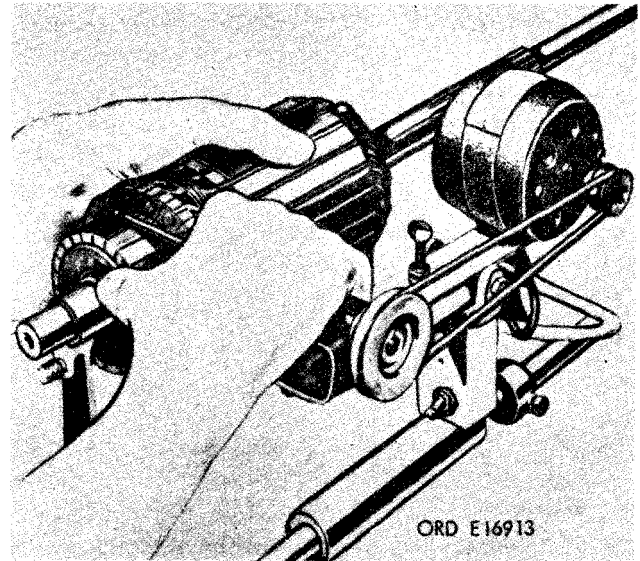
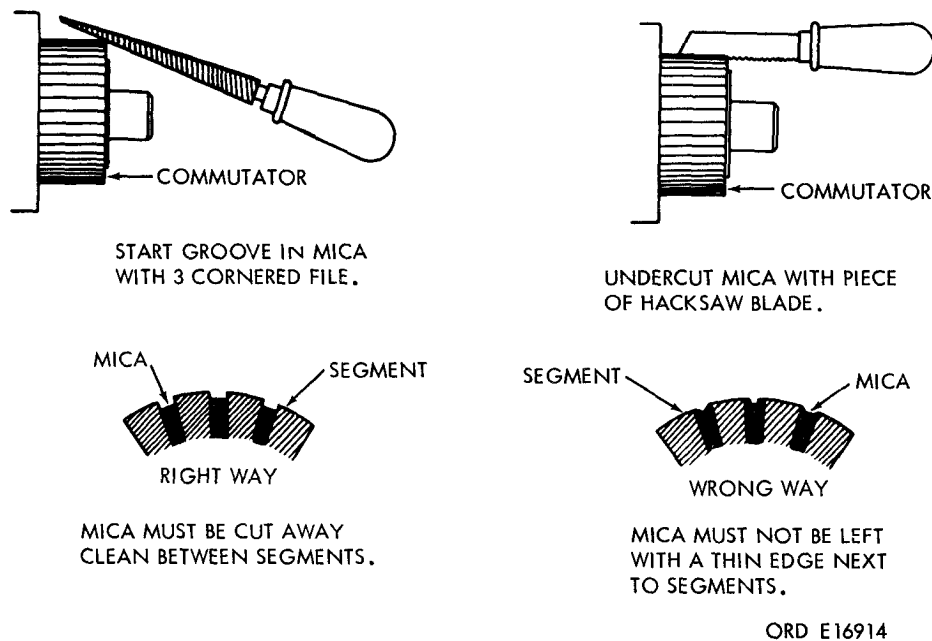

Figure 4-24. Undercutting mica using a power-driven tool.
Figure 4-25. Undercutting mica using an alternate hand method.
b. Undercutting Mica. After resurfacing the commutator, undercut mica to a depth of 0.025 to 0.032 inch below the surface of the commutator using a power-driven undercutting tool (fig. 4-24). If a power-driven tool is not available, the mica may be undercut by hand as shown in figure 4-25.
Note. Use care in undercutting. Do not widen commutator slots by removing metal from segments, and do not leave thin edge of mica next to segment. Figure 4-25 illustrates examples of good and bad undercutting.